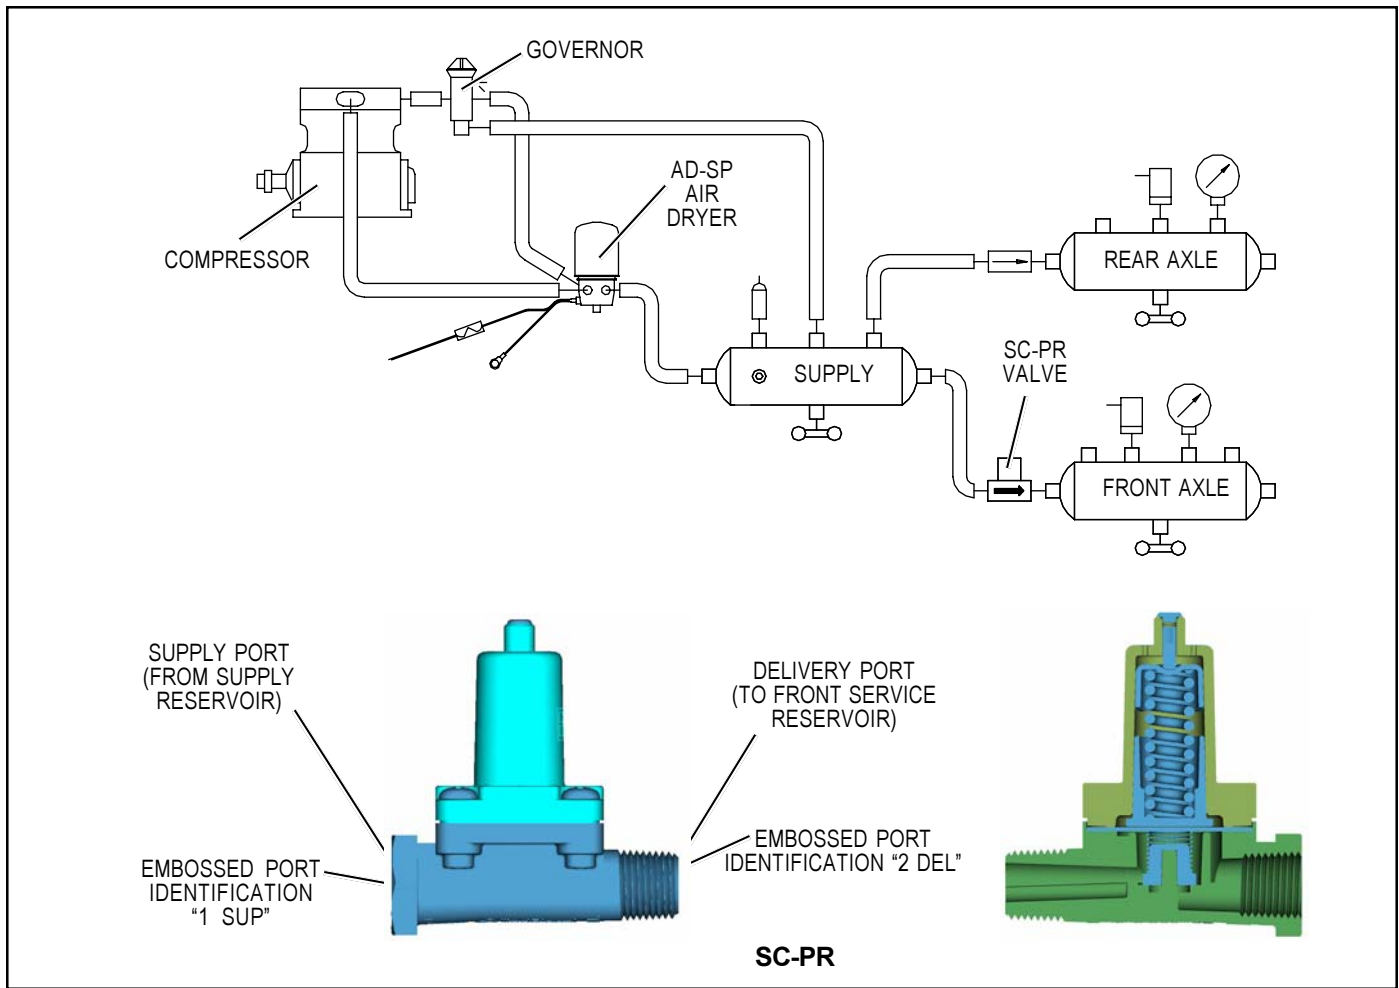

FIGURE 2 - AD-SP SYSTEM DRAWING WITH EXTERIOR AND CROSS-SECTION OF SC-PR VALVE.
6. Check for the presence of an SC-PR valve at the front axle reservoir. If not equipped, install an SC-PR valve as shown in the schematic in figure 2.